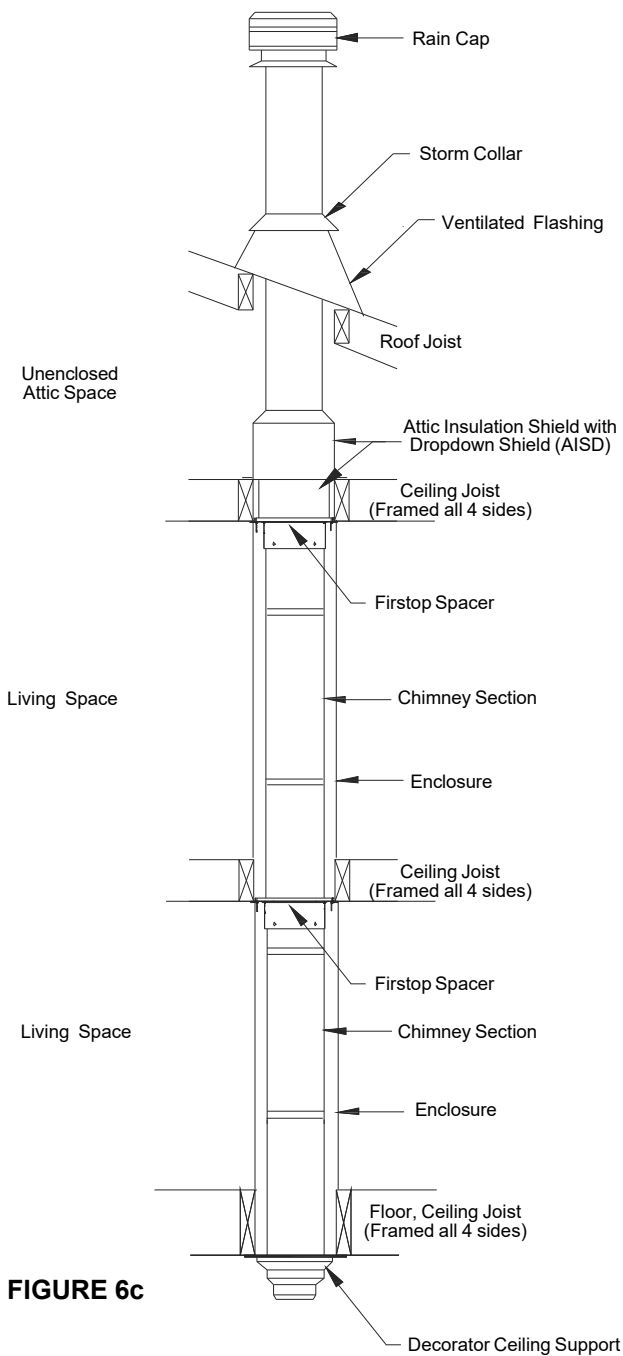

FIGURE 6c
When the chimney passes from a living space to a living space or into an attic space - FIGURE 6c:
- Where the chimney passes from a lower living space into an upper living space, install the Firestop Spacer (FS) at the ceiling level (see Figure 6c).
- Where the chimney passes from a lower living space into an attic space, the Firestop Spacer (FS) is installed at the ceiling level and the Attic Insulation Shield with Dropdown Shield (AISD) is installed flush with the top of the attic joist framing and fixed in place (see Figure 6c). NOTE: When the Firestop Spacer is used the Attic Insulation Shield with Dropdown Shield (AISD) must be installed in an open attic space.